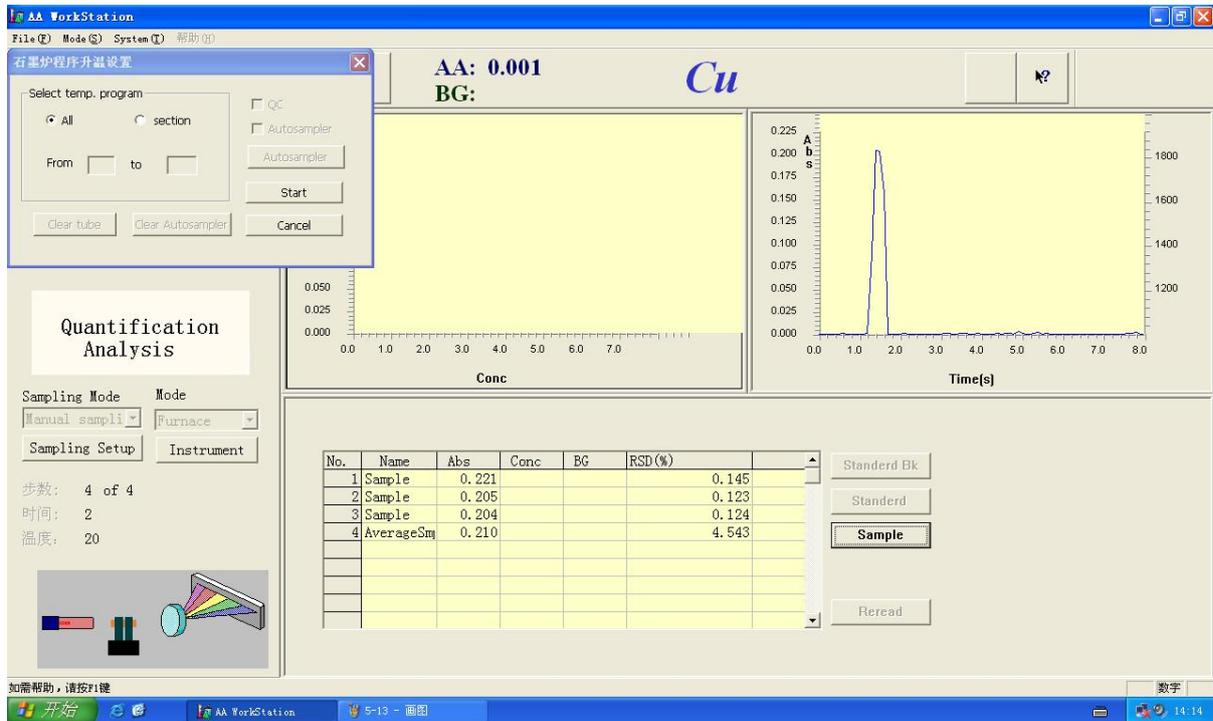

Figure 5-14
19. In the same way start the third heating,Figure 5-14
21. If you aren't satisfied with the measurement result or want to amend the sample name in Figure 5-14 you can test again or amend the sample name. The detailed method see the "Rereading and changing the name of the sample"